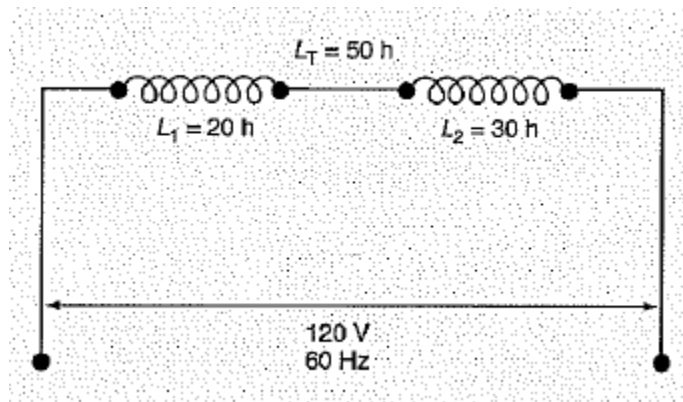

Figure 3.8: Series Inductors
- 3-68 The simplest form of inductive circuit is one with two inductors connected in series, as shown in Figure 3.8. The total inductance in such a circuit is the sum of the two inductances. If the circuit consists of more than two inductors connected in series, the total inductance is the sum of all the individual inductances.